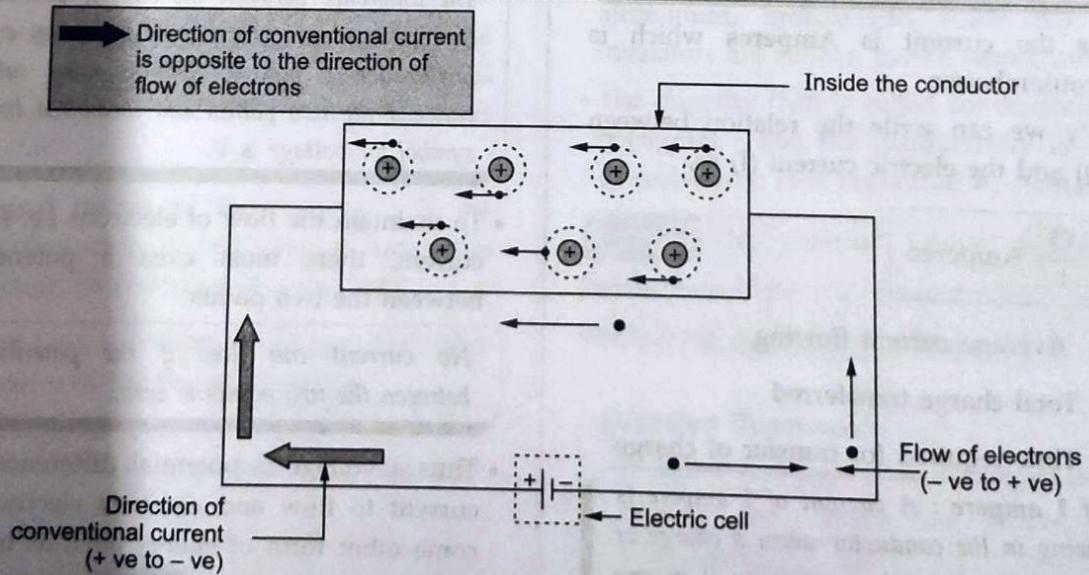

Fig. 0.2.2 The flow of current
- This direction depends on how the external electrical effort is applied to the conductor. Such an electrical effort may be an electrical cell, connected across the two ends of a conductor. Such physical phenomenon is represented in the Fig. 0.2.2.